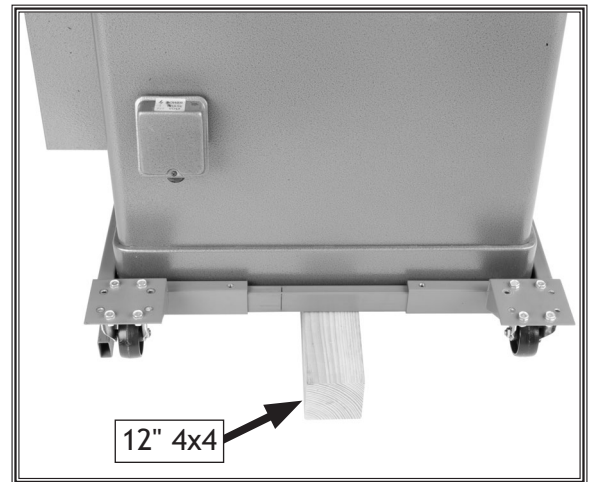

Figure 24. Fixed casters and rail placed around back of machine, which is raised up with a wood block.
12. Slide each of the corner brackets onto the remaining rail, slide the assembly into the rails, over the block and up against the machine, as shown in **Figure 24**.